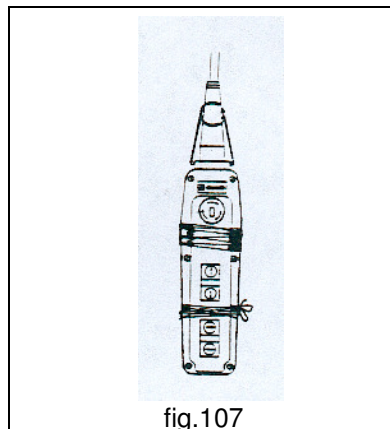

fig.107
- **NEVER** carry out provisional repairs or restoration work not conforming to the operating instructions (fig.107).